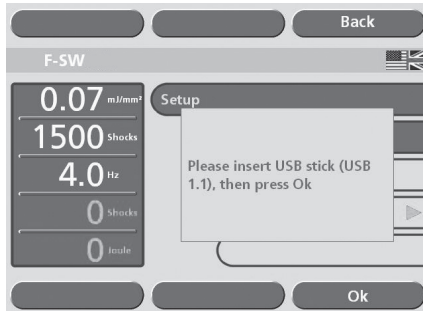

Fig.3-31 Software update
- Connect the USB stick to the USB port of the Chattanooga Intellect F-SW USA, as soon as you are prompted to do so and confirm by touching “OK” (Fig.3-31).